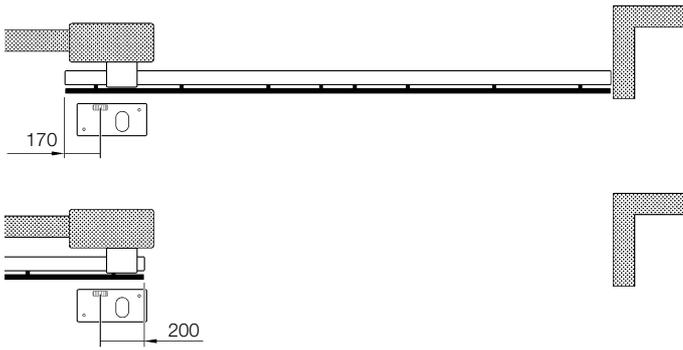
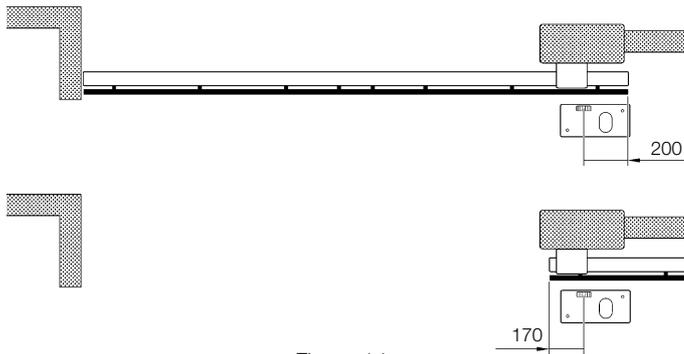

Figure 13
Figure 14
• To mount the limit switch brackets, the rack (and therefore the gate) must project from the axis of the pinion by the distances indicated in figure 13 (LT opening) and figure 14 (RT opening).
13 Fully open the gate and place the first piece of the rack on the pinion so that it projects from the axis of the pinion by the distance indicated in figure 13 or figure 14, that is, the space required for the limit switch brackets.